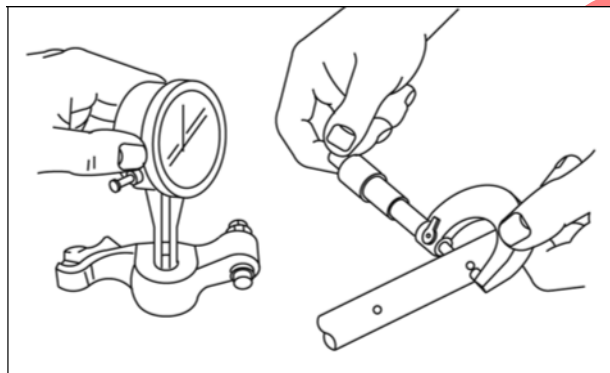

Figure 23
1. Check rotor arms and shaft (Figure 23).